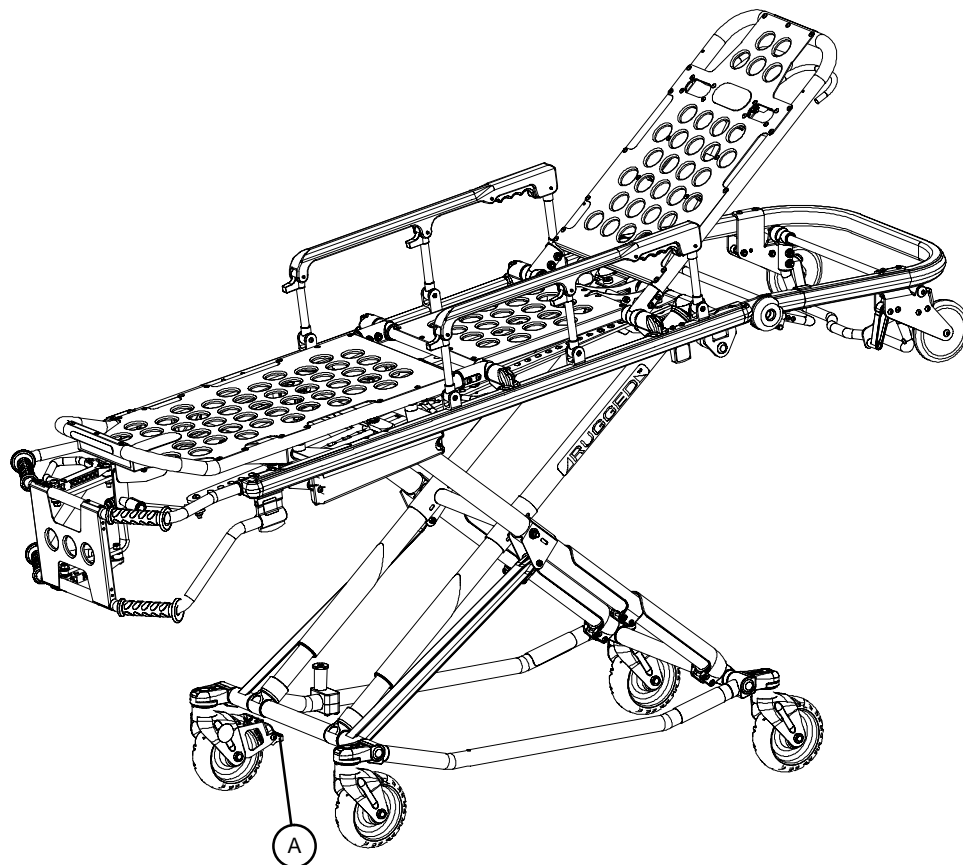

Figure 22 - Rugged® Wheel Lock
9. Grasp the base of the cot with one hand and pull up the base of the cot towards the litter, reducing the space between the base and the litter (Figure 22).
4. Squeeze and hold the release handle (A or B - see Figure 22) and raise the foot end of the cot back to a level position with the compartment floor.